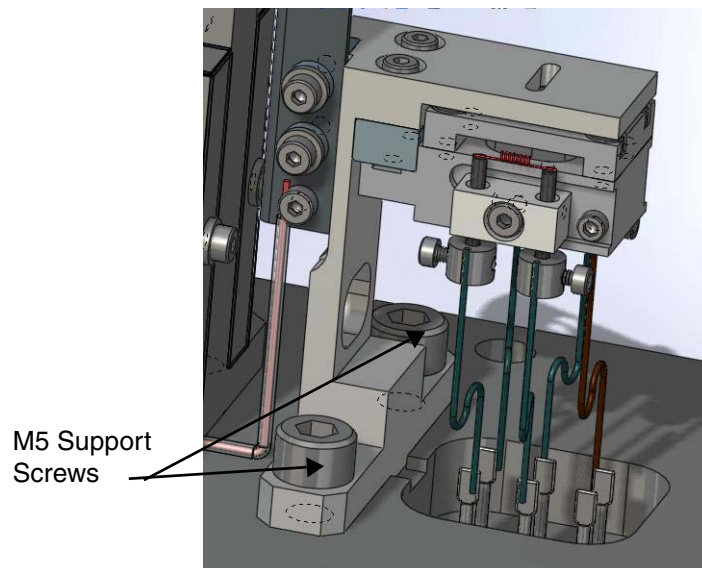

Figure B-67 M4 Support Screws
13. Remove the two M5 support screws (Figure B-67).